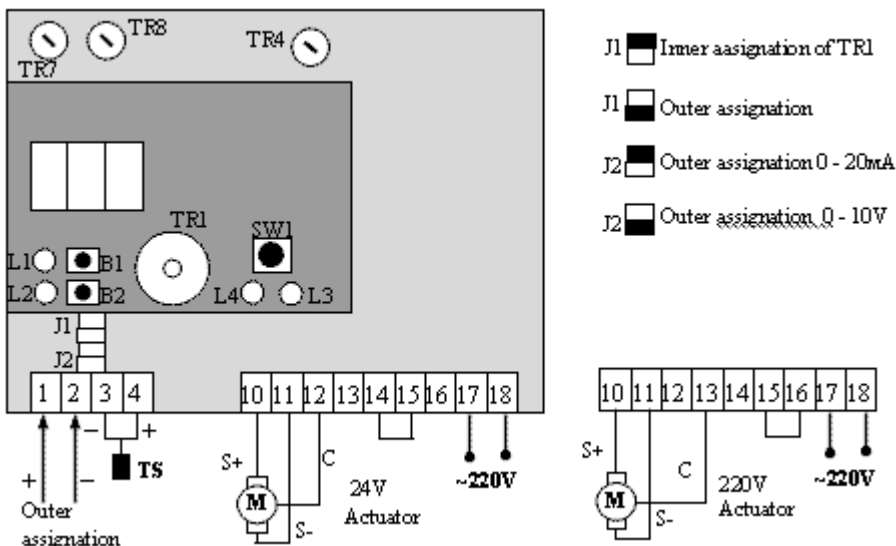

Figure 1
The assigned temperature level can be defined manually by means of element TR1 or by an electrical signal to terminals 1 and 2. The choice between those two ways can be done by jumper J1 (see Figure 1). The electrical signal can be a current between 0 and 20mA or a voltage between 0 and 10V. The type of the electrical signal can be fixed by jumper J2 (see Figure1).
5. Wiring (see Figure 1)